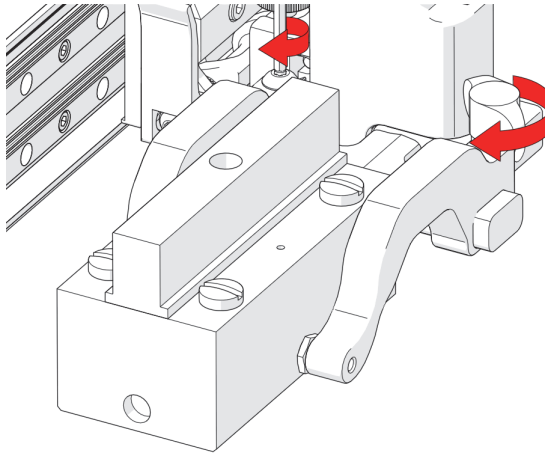

Figure 2-80 Pivot buttons
6. Tighten both the probe holder adjustment knob and the arm clamp screw, while ensuring the wedge remains centered with the yoke (see Figure 2-80 on page 109).